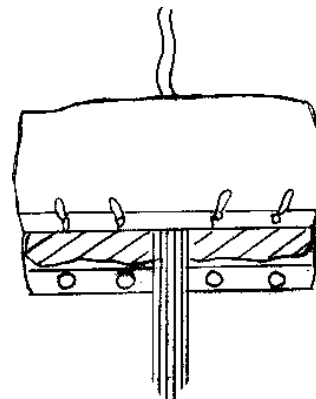

Figure 2-6
**Step 11** Pull the bag down onto the canopy. Try to fill the corners and sides of the bag to distribute the bulk evenly and avoid forming a lump in the middle (*Figure 2-6*).